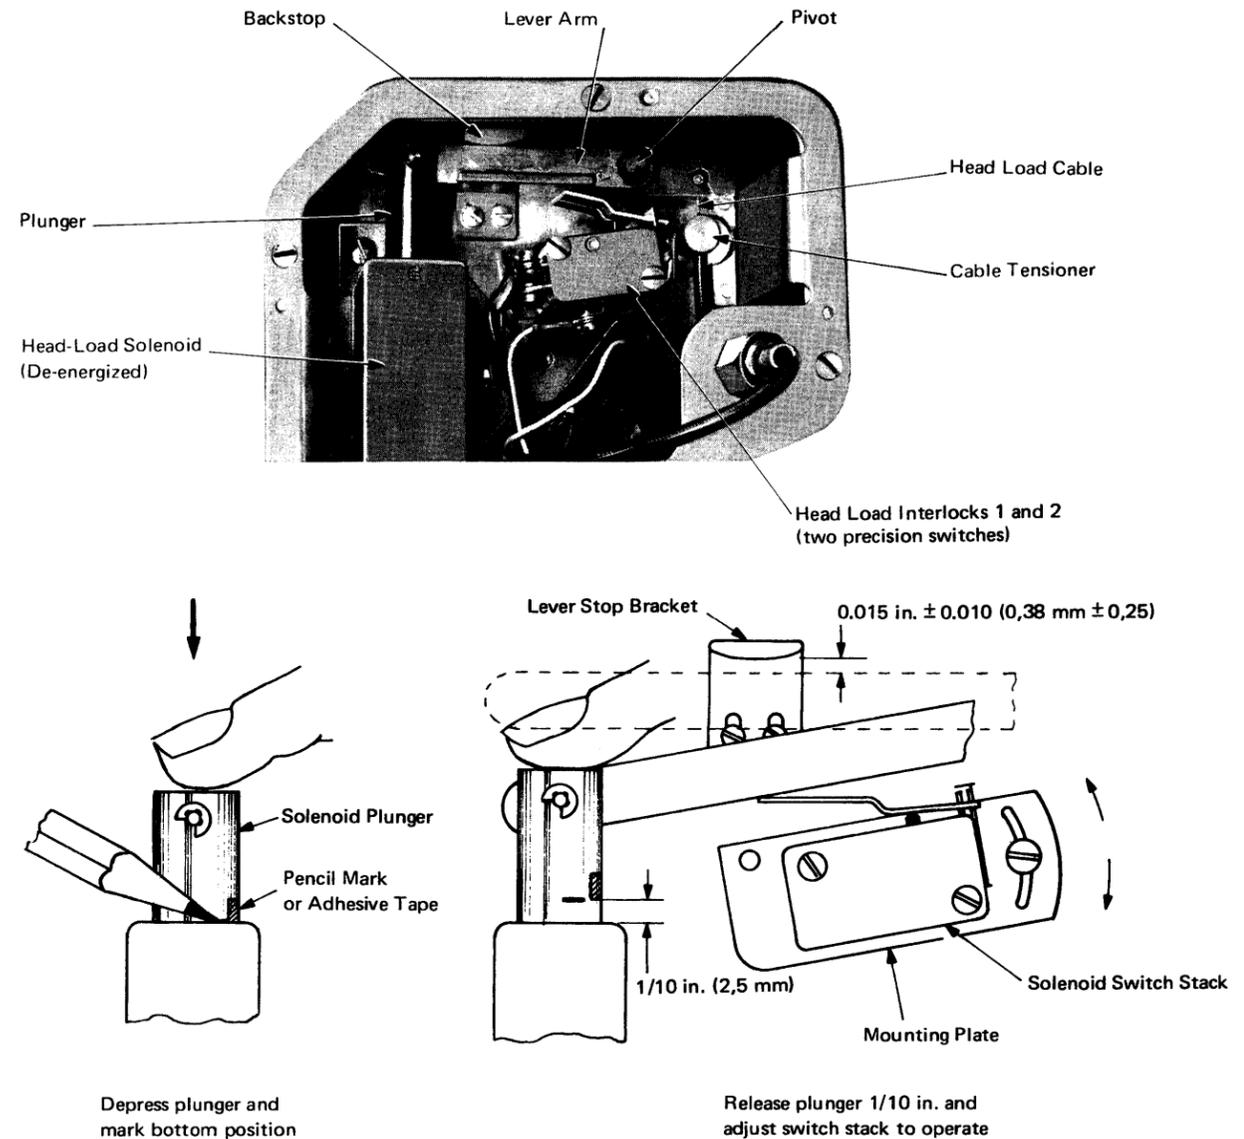

Figure 2-40. Head-Load Solenoid Switch Adjustment [07576]
5. Adjust lever stop bracket (Figure 2-40) by its securing screws to obtain a clearance of 0.015 in.  $\pm$  0.010 (0,38 mm  $\pm$  0,25) between bracket and lever with no slack on the head-load cable. Press *lightly* on the solenoid plunger to take up cable slack.
4. Remove circlip from pivot pin and push out pin (see Figure 2-40). Make sure that pin is not dropped.
5. Remove solenoid securing screws (2) and withdraw unit.
5. Check that both solenoid switches (see Figure 2-40) transfer when solenoid plunger is 1/10 in. (2,5 mm) from the bottomed position.
6. Slowly depress solenoid plunger until it bottoms (see Figure 2-40).
3. Remove screw securing switch mounting plate (see Figure 2-40).